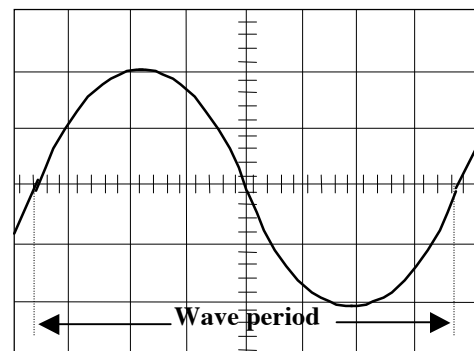

Figure 1 Sine wave
- Also, at one frequency learn how to use the 'scope's **cursor** features. Use the horizontal cursors to measure the period (figure 1) of the waveform, convert this to frequency, and compare with the 'scope's automatic measurement and the function generator's digital meter measurement. Then compare the amplitude as measured by the vertical cursors, and compare